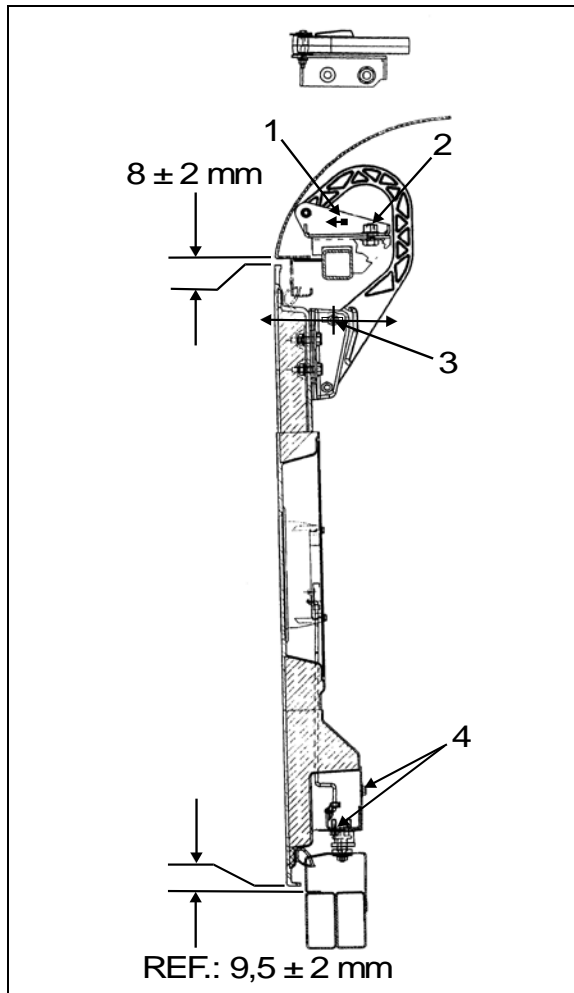

FIGURE 80: DOOR HINGE
2. Loosen nut (2, Figure 80).
3. Move part (1, Figure 80), as close as possible to exterior of coach, so as to have enough clearance for proper door opening.
4. Tighten nut (2, Figure 80).
5. Loosen nut (3, Figure 80). Hinge allows the door to be shifted "IN or OUT".
6. Adjust door panel to have the same gap space as neighboring panels or refer to Figure 60 for specified gap space. Only if necessary, use the adjustment allowed by moving part 1, Figure 80.